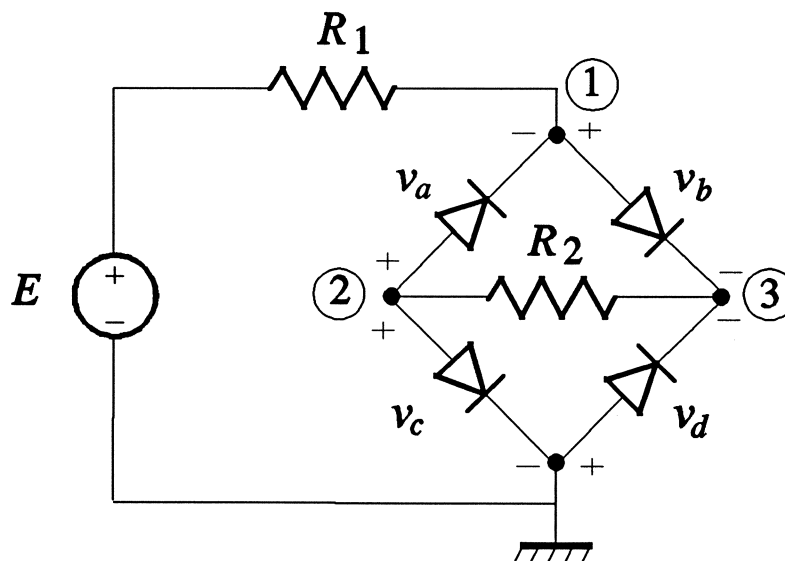

Fig. L2 A resistor-diode network.
A circuit with the diode bridge (full-wave rectifier) will be used throughout this lab. It is shown in Fig. L2.
- (1) Augment your input file to calculate the "output" voltage  $V_{out} = v_3 - v_2$ , and the conductance  $g_d$  of the linearized diode model for the diode denoted by the voltage  $v_b$  in Fig. L2. Resimulate the circuit and complete the following table.